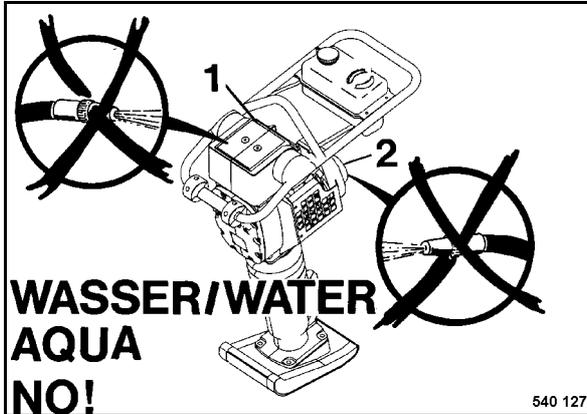

Fig. 32
- Do not guide the water jet directly into the air filter 1 (Fig. 32) and into the starter/air intake (2).